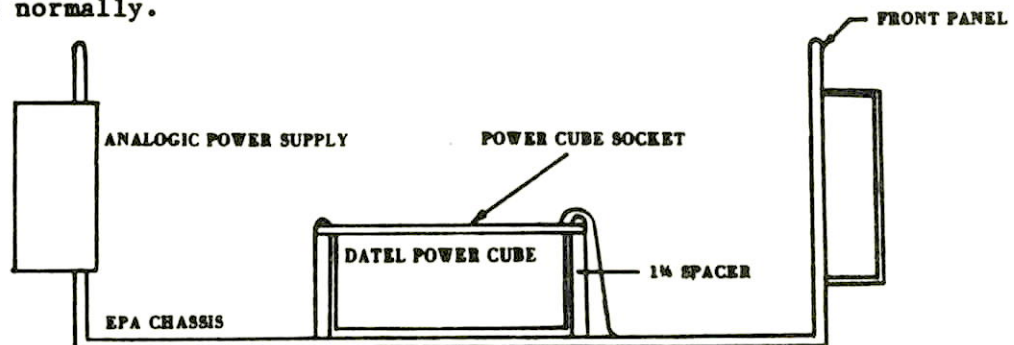

Figure 1
9. Heatsink the power cube to the EPA chassis by turning the entire power cube upside down (bottom up). Secure the power cube to the EPA chassis with the four 6-32 screws removed in step 6. (See Figure 1).